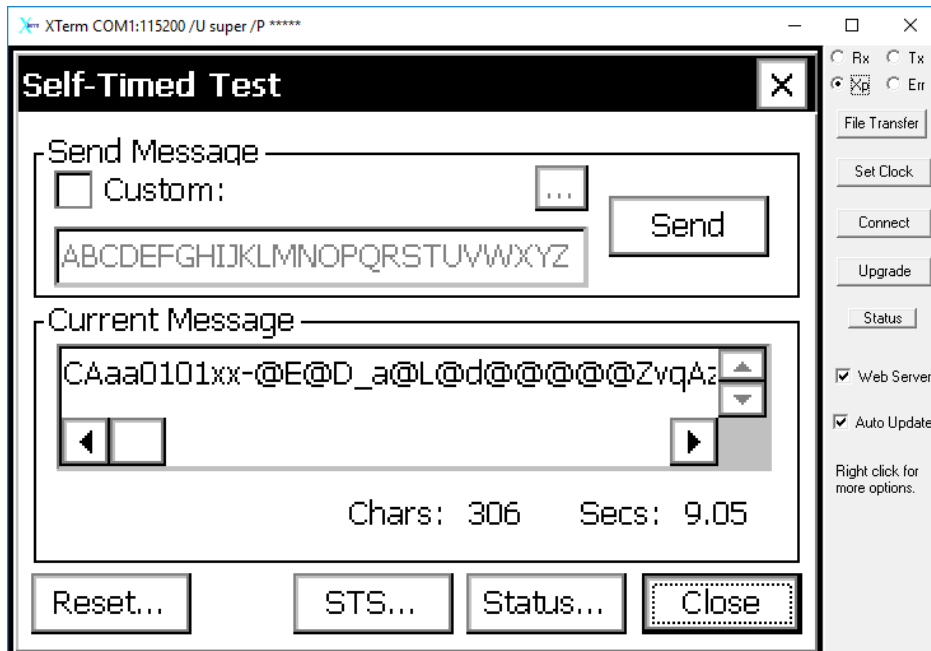

Figure 28: Iridium Formatter Verification pt.2
- o Confirm Satellite Transmission Formatting (Figure 28)